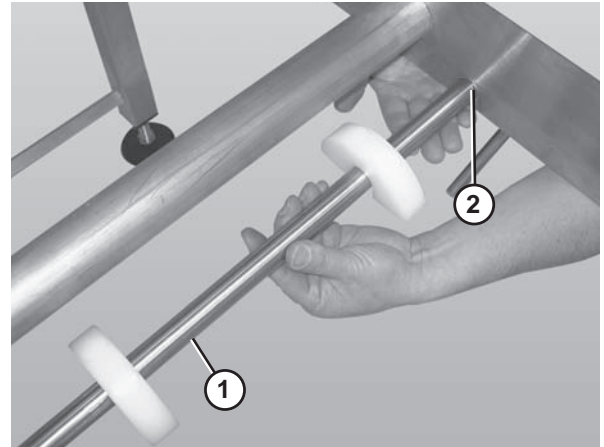

Figure 42
2. Slide the return shaft (Figure 42, item 1) and through the large slot (Figure 42, item 2) in the frame (picture shown without the belt or wear strips).
3. Push up on the return shaft (Figure 42, item 1) and slide the notched end of the shaft through the small slot on the opposite side of the frame.